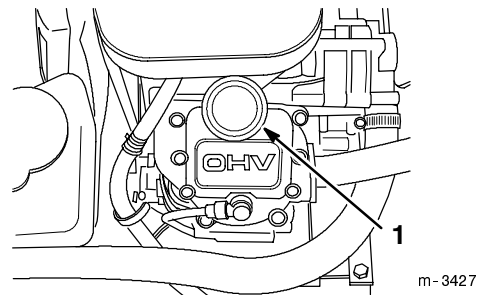

Figure 31
- Remove the oil filler cap (Fig. 31).
- Slowly pour approximately 80% of the specified amount of oil into the filler tube (Fig. 31).
- Slowly add additional oil to bring the oil level to the full (H) mark on the dipstick.